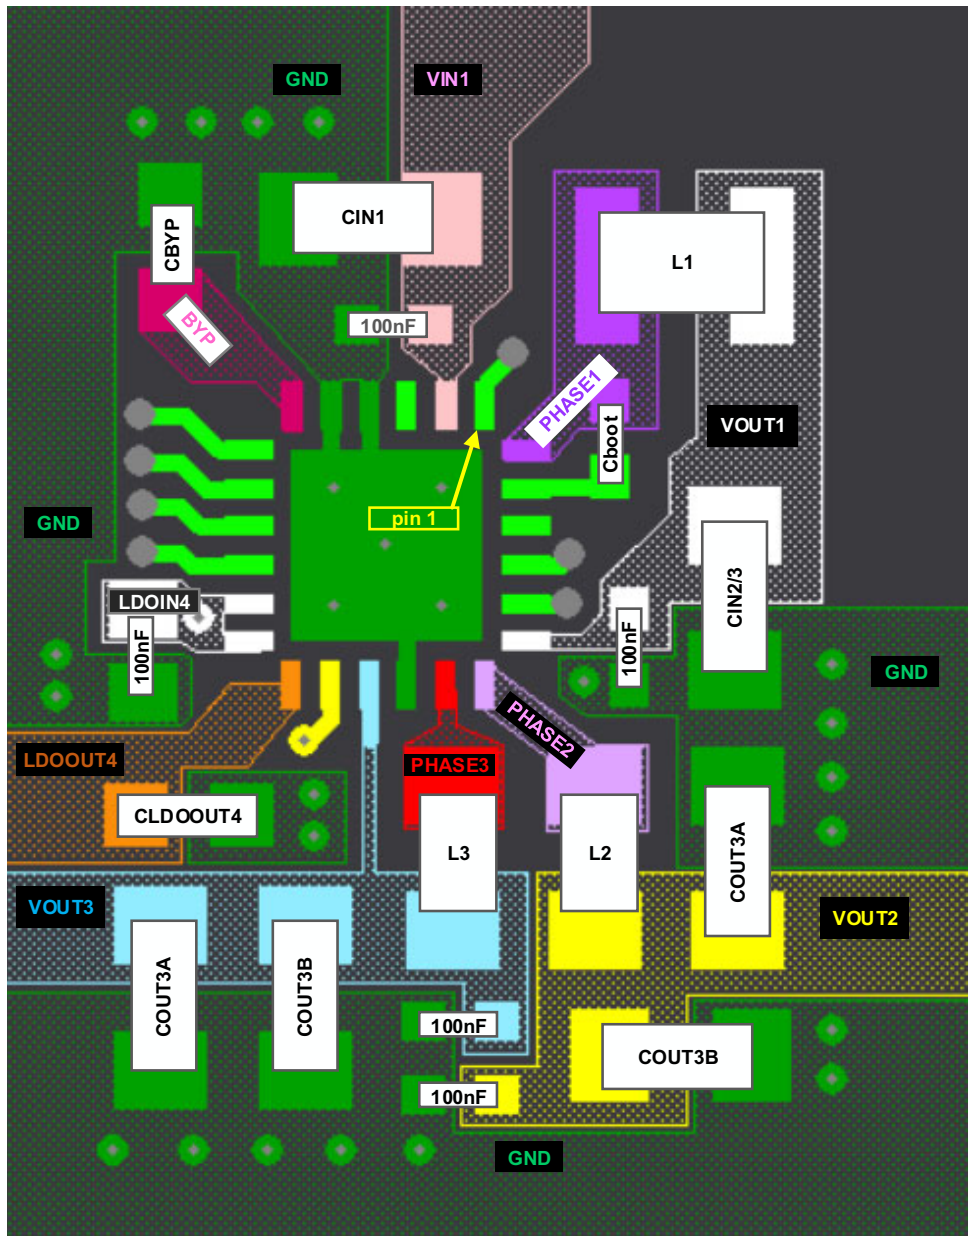

Figure 42. PCB Layout
- Route the feedback for Buck2 on an inner layer, connecting from  $C_{OUT2}$  to FB2 (Pin 22). FB2 is a noise-sensitive input. Route the trace so that it avoids passing underneath the inductors  $L_2$ ,  $L_3$ , or  $L_1$ , and also avoids passing underneath under the PHASE signals or pins. Renesas recommends routing the trace on an inner layer, going around  $C_{OUT3}$ , and then routing to Pin 22. VOUT2 (Buck2 output) and the FB2 pin are shown in yellow in Figure 42 on page 30.